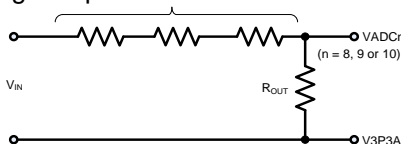
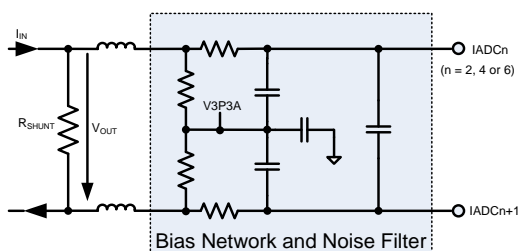
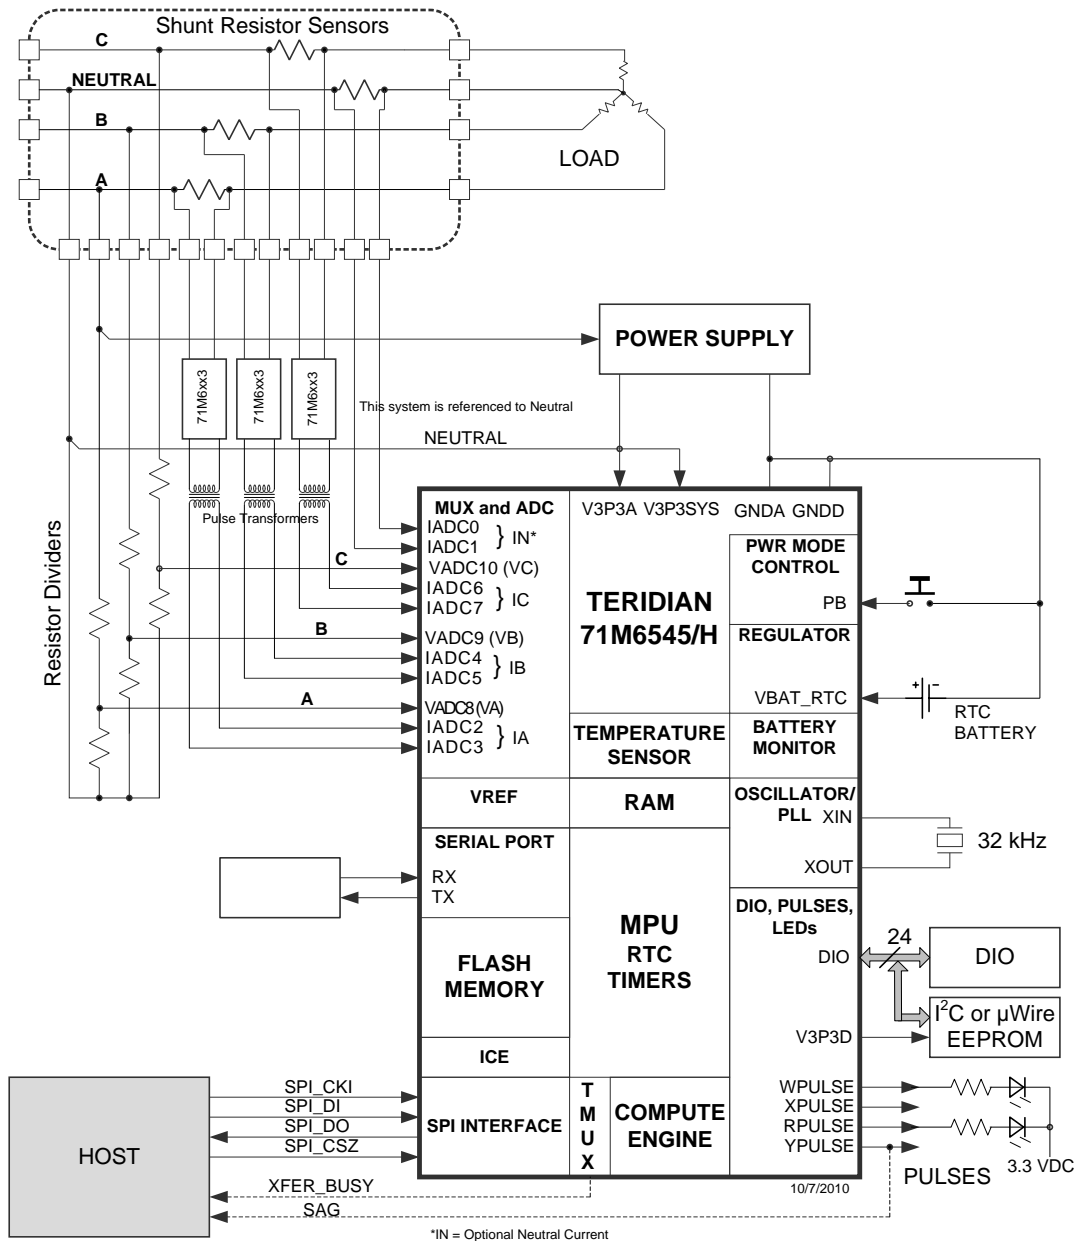
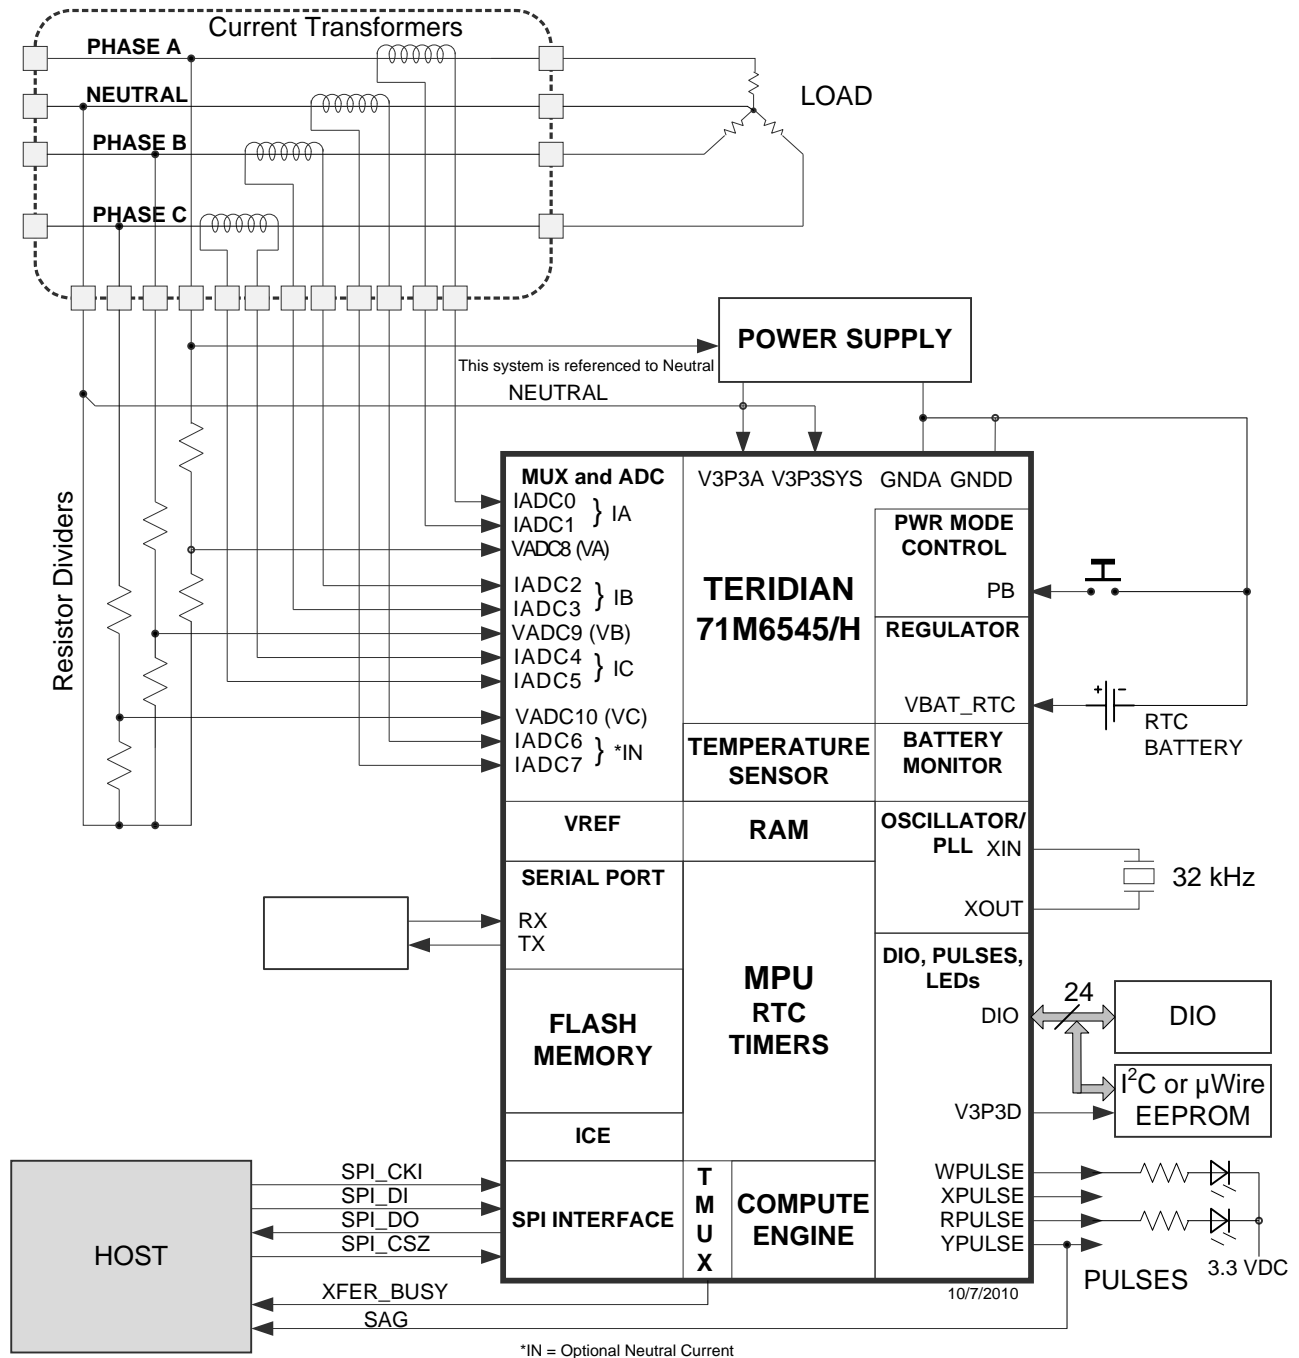

Figure 23: Resistive Voltage Divider (Voltage Sensing)
Figure 26: Differential Resistive Shunt Connections (Current Sensing)
Figure 27: System Using Three-Remotes and One-Local (Neutral) Sensor
Figure 28. System Using Current Transformers
Figure 23 through Figure 26 show voltage-sensing resistive dividers, current-sensing current transformers (CTs) and current-sensing resistive shunts and how they are connected to the voltage and current inputs of the 71M6545/H. All input signals to the 71M6545/H sensor inputs are voltage signals providing a scaled representation of either a sensed voltage or current.
Figure 27 shows a typical connection for current shunt sensors; using the 71M6xx3 (poly-phase) isolated sensors. Note that one shunt current sensor is connected without isolation, which is the neutral current sensor in this example (connected to pins IADC0-IADC1). Each 71M6xx3 device is electrically isolated by a low-cost pulse transformer. The 71M6545/H current sensor inputs must be configured for remote sensor communications, as described in 2.2.8. Flexible remapping using the I/O RAM registers *MUXn\_SEL[3:0]* allows the sequence of analog input pins to be different from the standard configuration (a corresponding CE code must be used). See Figure 2 for the AFE configuration corresponding to Figure 27.
Figure 28 shows a poly-phase system using four current transformers to support optional Neutral current sensing for anti-tamper purposes. The Neutral current sensing CT can be omitted if Neutral current sensing is not required. The system is referenced to Neutral (i.e., the Neutral rail is tied to V3P3A and V3P3SYS).
This section discusses metrology temperature compensation for the meter designs where current shunt sensors are used in conjunction with Teridian's 71M6xx3 remote isolated sensors, as shown in Figure 27.
Referring to Figure 27, the VADC8 (VA), VADC9 (VB) and VADC10 (VC) voltage sensors are always directly connected to the 71M6545/H. Thus, the precision of the voltage sensors is primarily affected by VREF in the 71M6545/H. The temperature coefficient of the resistors used to implement the voltage dividers for the voltage sensors (see Figure 23) determine the behavior of the voltage division ratio with respect to temperature. It is recommended to use resistors with low temperature coefficients, while forming the entire voltage divider using resistors belonging to the same technology family, in order to minimize the temperature dependency of the voltage division ratio. The resistors must also have suitable voltage ratings.
Table 57 shows the five  $GAIN\_ADJ_x$  equation output storage locations and the voltage or current sensor channels for which they compensate for the 1 Local / 3 Remote configuration shown in Figure 27.
**Table 57: GAIN\_ADJn Compensation Channels (Figure 2, Figure 27, Table 1)**
This section discusses metrology temperature compensation for meter designs where Current Transformer (CT) sensors are used, as shown in Figure 28.
Referring to Figure 28, the VADC8 (VA), VADC9 (VB) and VADC10 (VC) voltage sensors are directly connected to the 71M6545/H. Thus, the precision of the voltage sensors is primarily affected by VREF in the 71M6545/H. The temperature coefficient of the resistors used to implement the voltage dividers for the voltage sensors (see Figure 23) determine the behavior of the voltage division ratio with respect to temperature. It is recommended to use resistors with low temperature coefficients, while forming the entire voltage divider using resistors belonging to the same technology family, in order to minimize the temperature dependency of the voltage division ratio. The resistors must also have suitable voltage ratings.
**Table 58: GAIN\_ADJx Compensation Channels (Figure 3, Figure 28, Table 2)**